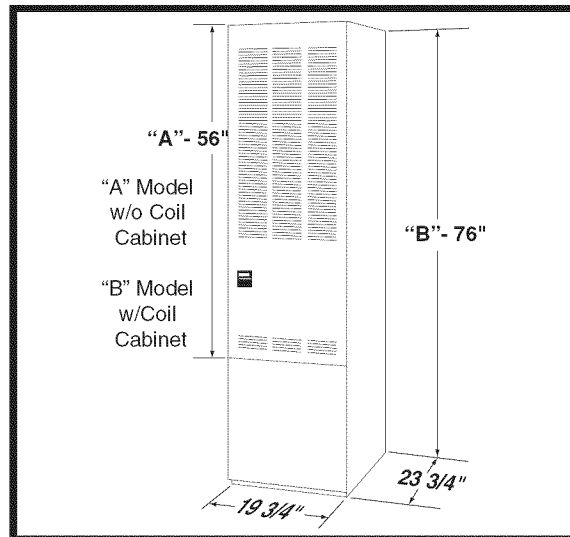

Figure 4. Overall Dimensions
- The dimensions of the room or alcove must be able to accommodate the overall size of the furnace and the installation clearances listed in Table 1 and in Figure 4 (page 6).